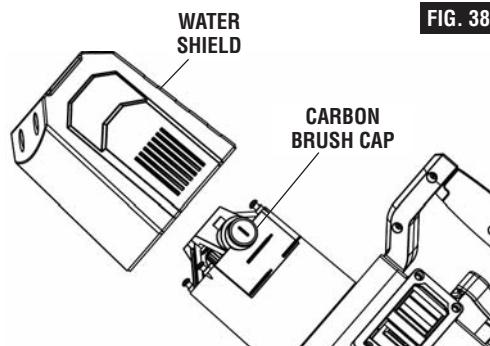

FIG. 38
2. Loosen the plastic cap with a screwdriver, and pull out the worn carbon brushes (Fig. 38).